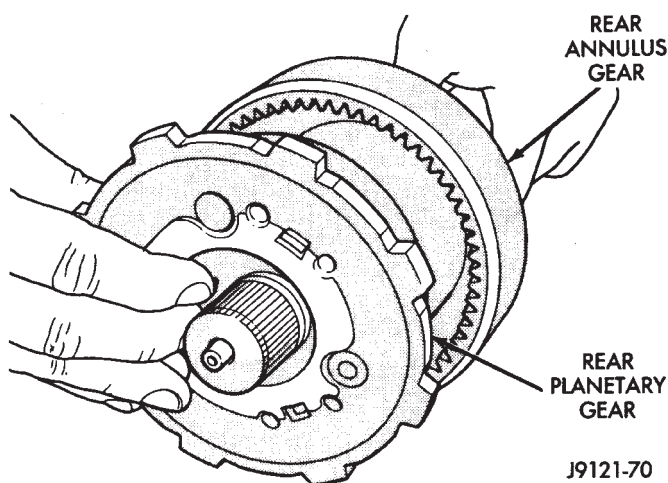

Fig. 81 Installing Rear Planetary Gear—46RH
(5) Install rear planetary gear in rear annulus gear (Fig. 81). Be sure planetary carrier is seated against annulus gear.